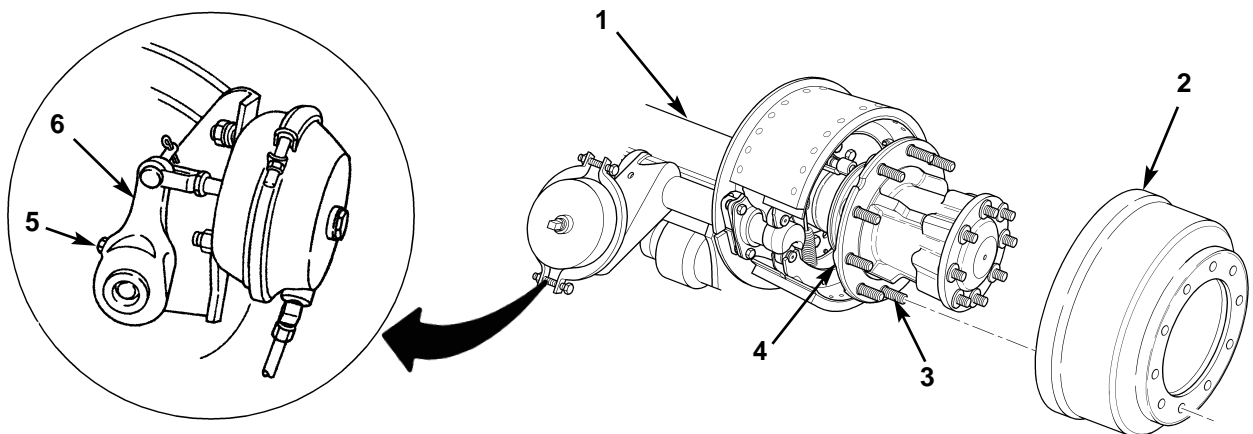

Figure 7. Removing Rear Brake Drums.
1. Depress and rotate screw (figure 7, item 5) on slack adjuster (figure 7, item 6) until brake drum (figure 7, item 2) can be rotated freely at both ends of rear-rear axle (figure 7, item 1).
2. Carefully slide brake drum (figure 7, item 2) off wheel studs (figure 7, item 3) and remove from hub (figure 7, item 4) at both ends of rear-rear axle (figure 7, item 1).